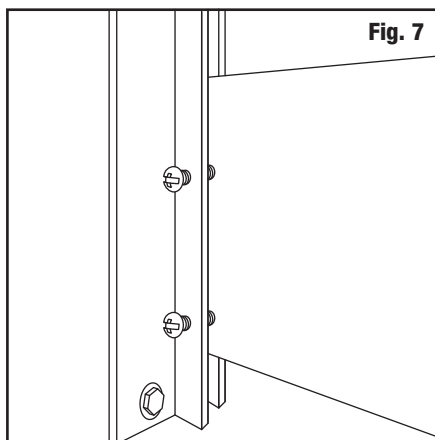

Fig. 7
2. Align Bottom Bracket edge along Cutting Bar side (Fig. 7).